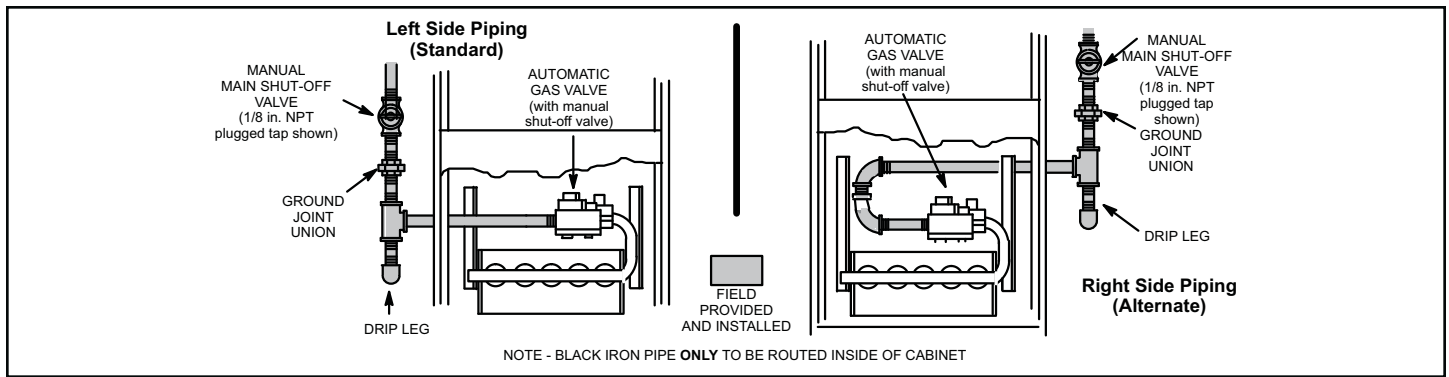

Figure 40.
1. Gas piping may be routed into the unit through either the left or right hand side. Supply piping enters into the gas valve from the side of the valve as shown in Figure 40.
3. Gas piping must not run in or through air ducts, clothes chutes, chimneys or gas vents, dumb waiters or elevator shafts. Center gas line through piping hole. Gas line should not touch side of unit. See Figure 40.